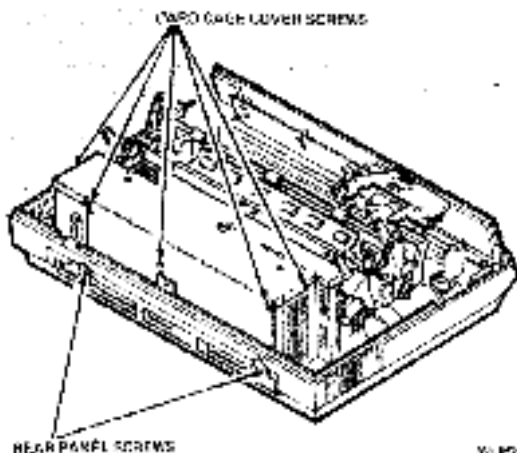

Figure 1-5 Card Cage Cover Removal
3. Remove the card cage cover to reach the power supply printed circuit board (PCB) (Figure 1-5).